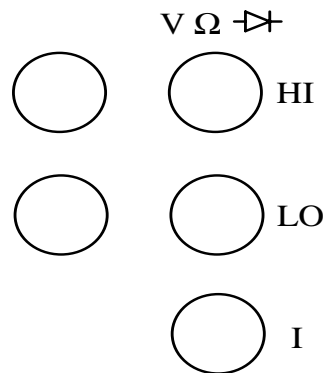

Figure 10
There is a diagram of the front of the multimeter given in Fig. 10.
1. use the right ports labeled HI and LO (see Fig. 10)
1. use the right ports labeled I and LO (see Fig. 10)
1. use the right ports labeled HI and LO (see Fig 10)